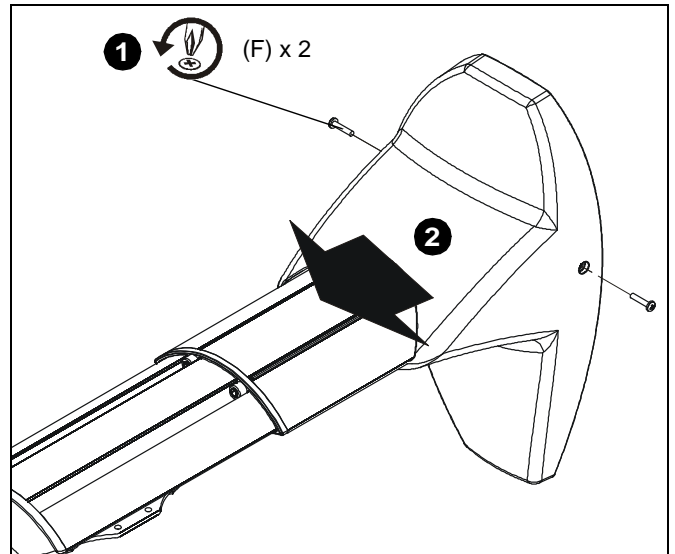

Figure 22
1. Remove two #8-32 x 3/4" Phillips pan machine screws (F) to free outer cover from mounting bracket. (See Figure 22)
2. Slide outer cover of mount (A) away from mounting bracket. (See Figure 22)